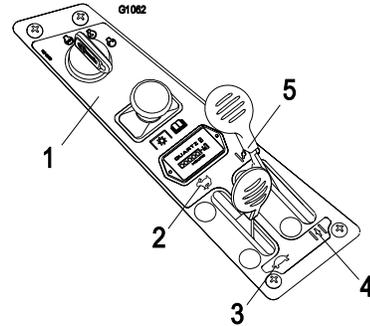

Figure 9
3. Move the throttle lever to midway and the choke lever forward before starting a cold engine (Figure 9).